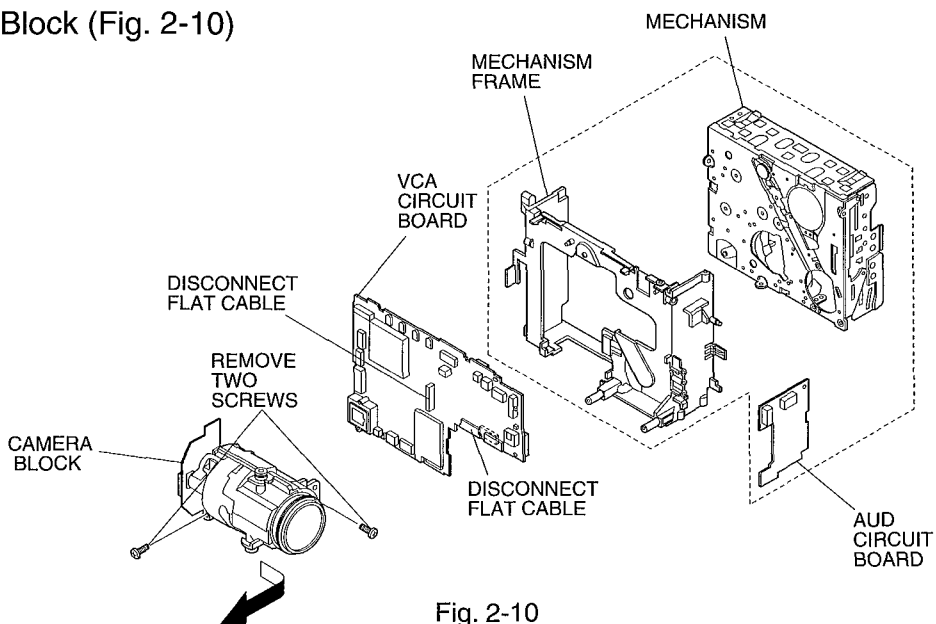

Fig. 2-10
2.9 Camera Block (Fig. 2-10)
- (8) Remove the camera block. (See Fig. 2-10)